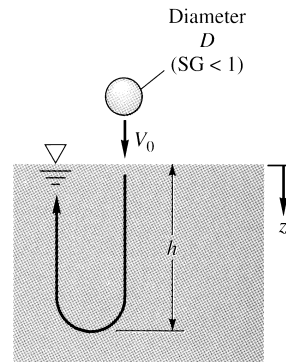

Fig. P7.98
**7.98** A buoyant ball of specific gravity  $SG < 1$ , dropped into water at inlet velocity  $V_o$ , will penetrate a distance  $h$  and then pop out again, as in Fig. P7.98. (a) Make a dynamic analysis, assuming a constant drag coefficient, and derive an expression for  $h$  as a function of system properties. (b) How far will a 5-cm-diameter ball, with  $SG = 0.5$  and  $C_D = 0.47$ , penetrate if it enters at 10 m/s?